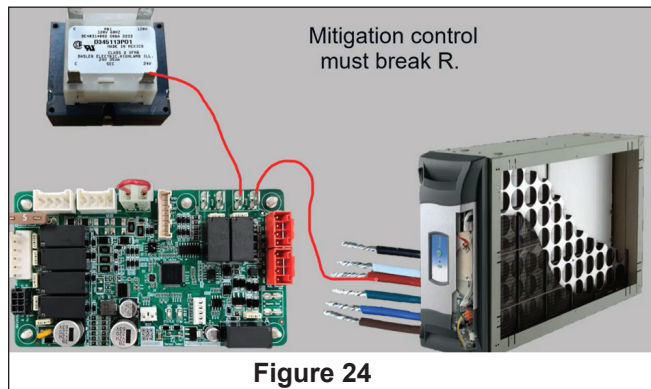

Figure 24
5. Connect the spade terminal to one side of either the **Acc1** or **Acc2** terminals as shown in figure 24.
7. Route, terminate, and connect the remaining section of the RED 24V wire to the indoor unit transformer, as shown in Figure 24.